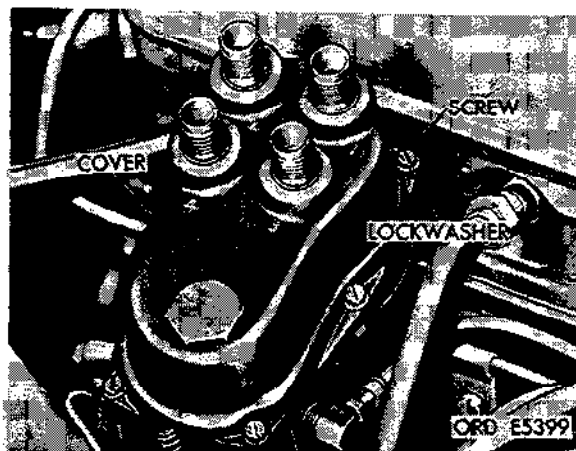

Figure 2-149. Remove distributor cover assembly.
(2) Remove six screws and remove cap and cover assembly (fig. 2-149).